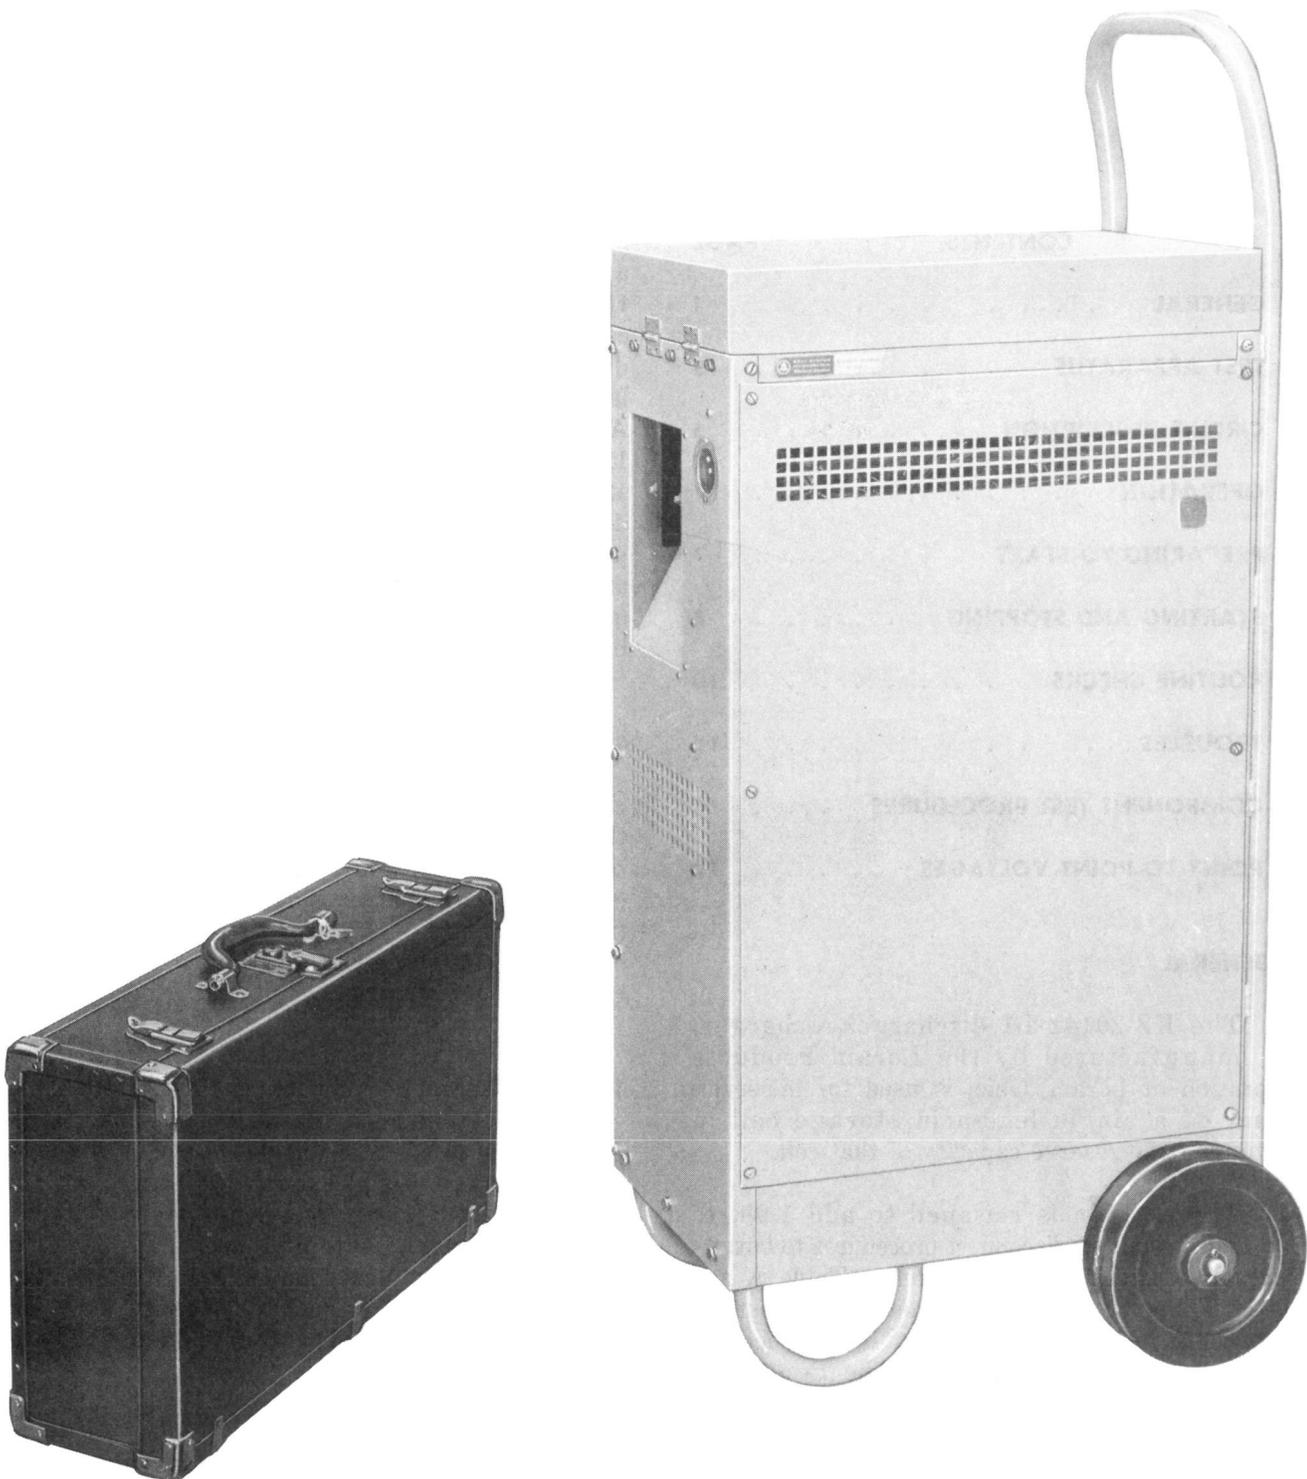
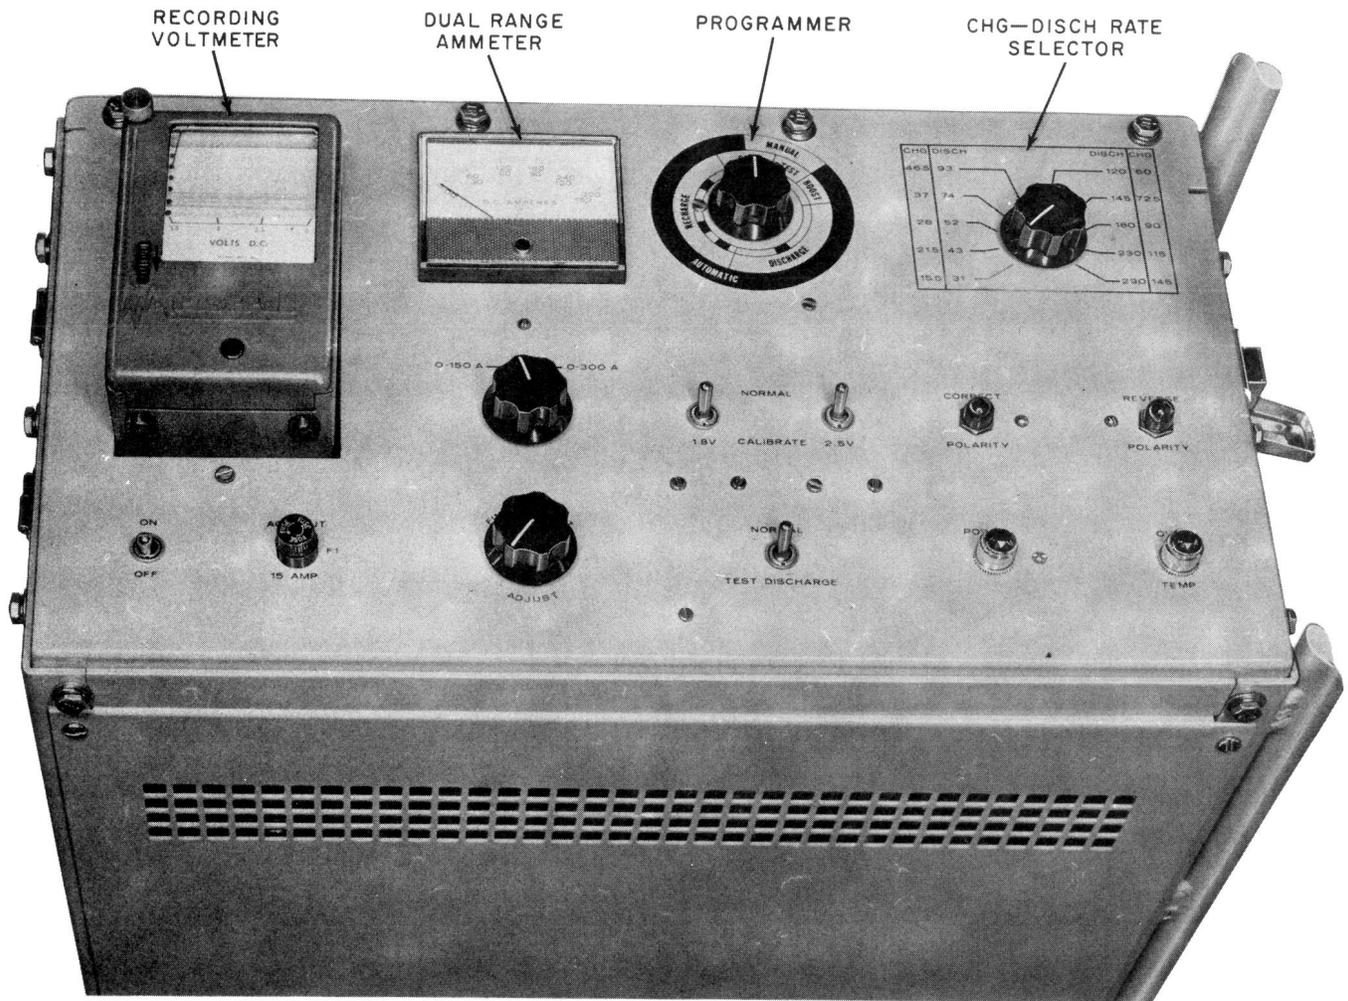
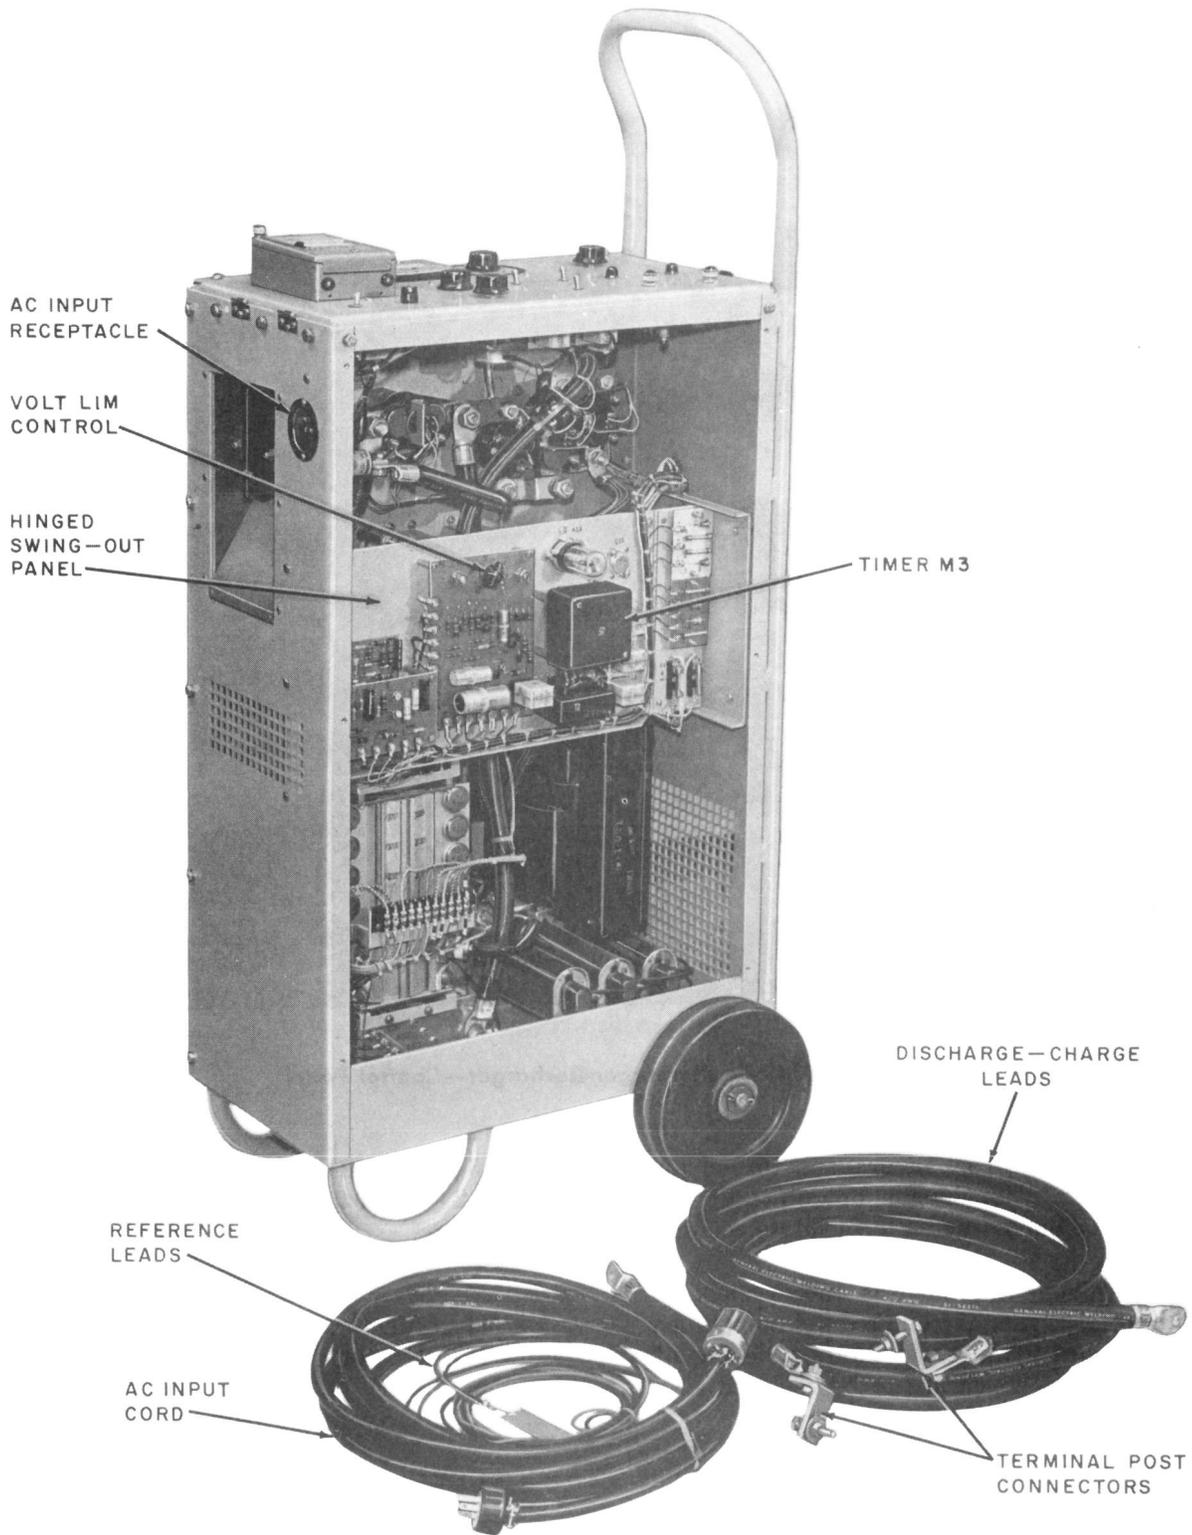
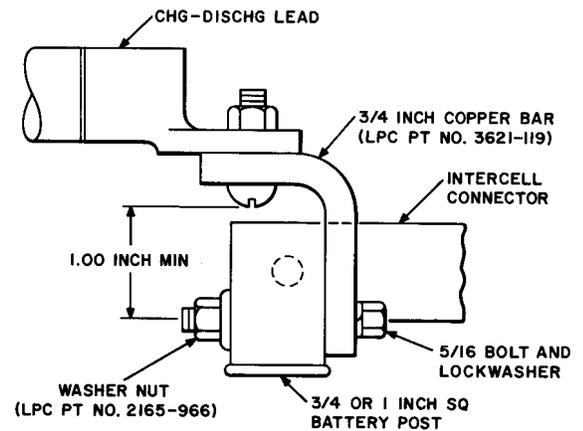

Fig. 1—KS-20142 L1 Discharger-Recharger and Cable Carrying Case
Fig. 2—KS-20142 L1 Discharger-Recharger—Control Panel
Fig. 3—KS-20142 L1 Discharger-Recharger—Top and Side Covers Removed
Fig. 4—Battery Post Termination
1.03 The discharger-recharger is assembled in a handcart-type cabinet which permits movement to battery test locations (Fig. 1). Meters, indicating lamps, and most of the controls are easily accessible on the control panel when the hinged top cover is removed (Fig. 2). Those equipment or trim controls
not located on the control panel are located behind a removable side cover (Fig. 3). Two 12-foot, flexible cables, with provision for bolting to the cell terminal posts (Fig. 4), are provided for the discharge-charge current. Two 12-foot flexible leads are provided for external reference or sensing. A 23-foot, flexible, yellow, 3-wire cord (or two 12-foot cords) is provided for connection to a 120-volt, 60-Hz, 15-ampere, commercial outlet. The discharge-charge, external reference, and ac power input leads are connected to the discharger-recharger at the front (opposite the cart handle). A carrying case is provided for ease in carrying these leads between test locations (Fig. 1).
(a) **Discharge-Charge Leads:** Observing the above precautions, connect the discharge-charge leads (Fig. 3) first to the terminal studs designated POS and NEG on the front of the unit and then to the appropriate terminals of the cell to be
tested. If the cell has two terminal posts for each polarity, connect the leads to the posts which are diagonally opposite each other. (Refer to Fig. 4 for cell post termination details.) Observe terminal post polarity. If connection polarity is correct, the green CORRECT POLARITY lamp on the control panel will light. If the leads are incorrectly connected, the red INCORRECT POLARITY lamp will light (see Caution 2). Care should be taken in connecting the leads to prevent excessive strain from being applied to the cell termination posts. A battery lead clamp assembly (WECO P-33A984 not furnished by Lorain) may be used to relieve strain on the posts. Do not disconnect the cell under test from the battery string.
on the unit (Fig. 3) and then to a source of 120-volt, 60-Hz, single-phase ac power.
(a) **Voltage Limiting:** The VOLT LIM (R123) potentiometer, accessible when the side cover is removed (Fig. 3)(on later or modified units this adjustment is accessible at the side cover), is factory set at 2.55 volts regulated charge voltage. If other than 2.55 volts is desired, the adjustment can be made in the range from 2.3 to 2.7 volts. For KS-5553 (lead-antimony) cells the regulated charge voltage must be set at 2.35 volts.